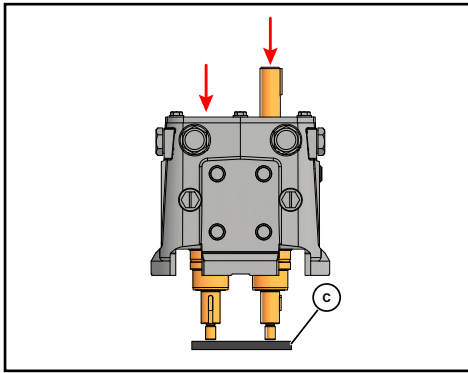

Figure 45 - Press Shafts from Gear Case
6. Place the gear case on an arbor press with the liquid end facing down. Protect the shaft ends with a wood or plastic block (Figure 45, item C) and press the shafts out of the gear case.